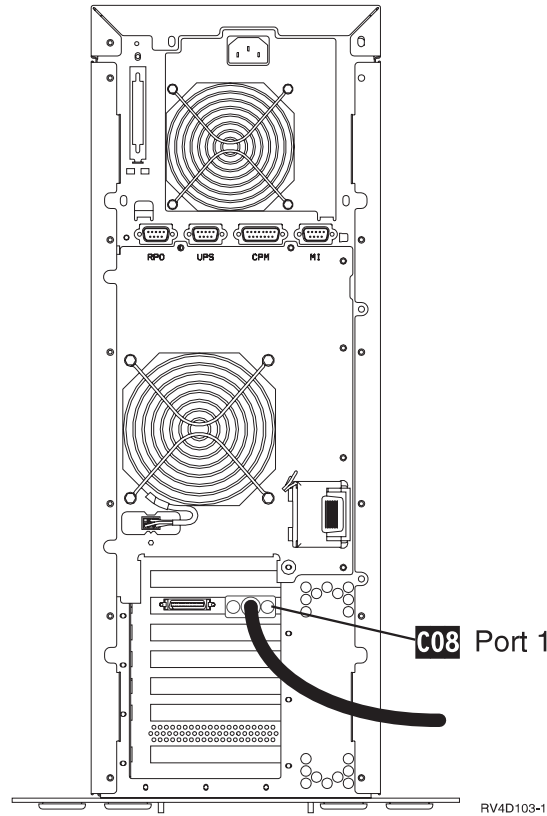

Figure 2. Port 1, Position C08
- ___ 11. Disconnect the system unit console cable (Figure 2 on page 5) that is connected to Port 1 (right connector). Disconnect the other end of the cable from your PC. The cable will not be used.